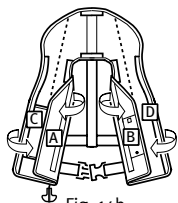

Fig. 14b
2. Fold sides (C & D) inward along dotted lines. Secure sides with Velcro (Fig. 14b) showing partially folded PFD.